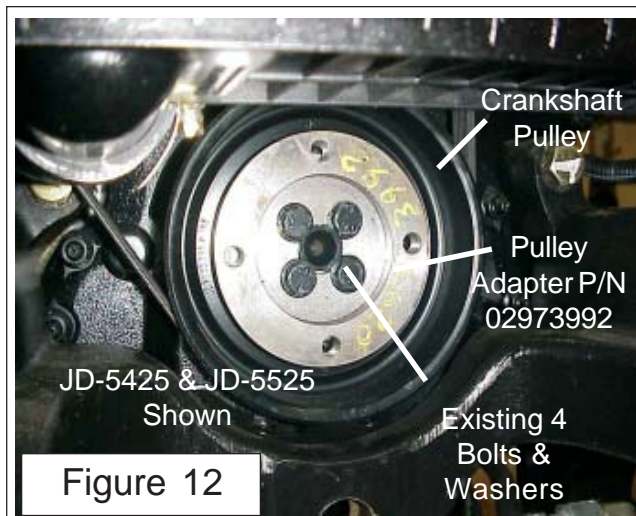
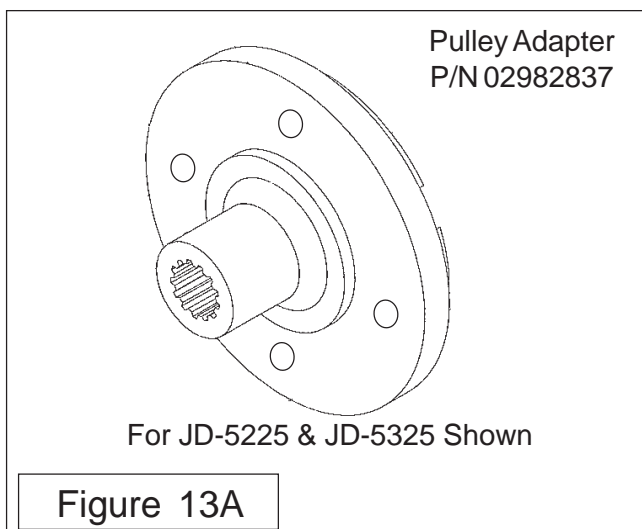

Figure 12
Figure 13A
9. **Install Engine Pulley Adapter.** The Engine pulley adapter will bolt to the crankshaft pulley of the tractor. Looking at the front of the engine at the crankshaft pulley there are four bolts and washers retaining a plate to the front of the pulley, this spacer comes already on the tractor but will not be used. Remove these four bolts removing the spacer. The spacer will not be used but the four bolts and washers will. Install the furnished pulley adapter (See Figure 12 & 13 P/N 02973992 & P/N 02702900 splined adapter for JD-5425 & 5525) (See Figure 13A & 13B P/N 02982837 for JD-5225 & 5325) to the front of the crankshaft pulley with the tractor four bolts and washers (See Figure 12, JD-5425 & 5525 Shown). Tighten the four bolts down to John Deere specifications as specified in the John deere Manual pertaining to these four bolts.
NOTE: JD-5225 & 5325 will have the splined adapter sleeve welded to the Pulley adapter (See Figure 13A & 13B).